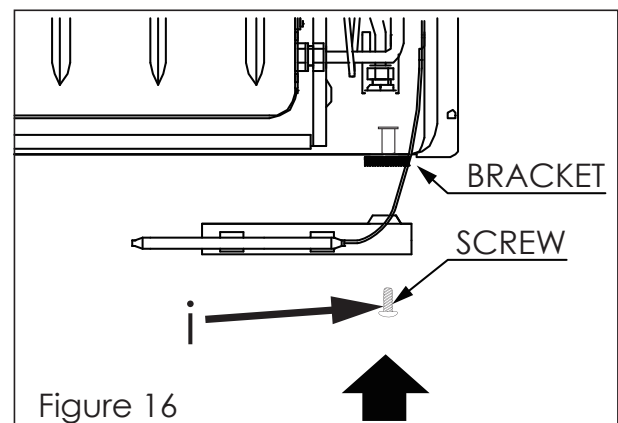

Figure 16
- Place the thermostat sensor under the right bottom of the bracket and attach it with the provided medium screw (i) that fixes the appliance to the bracket as shown in figures 16 and 17.